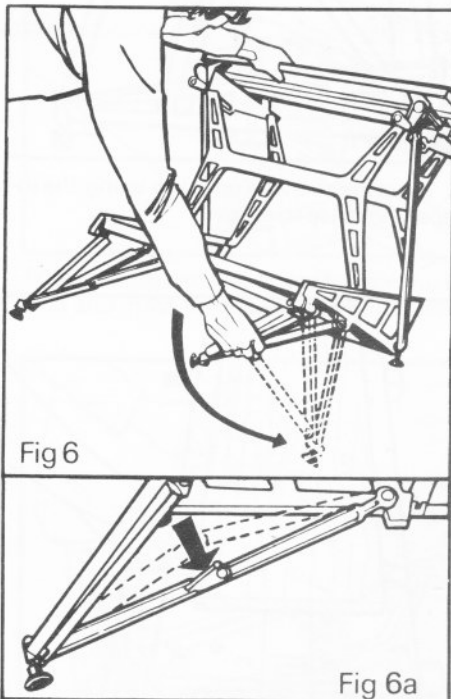

Fig 6
- 6 Tilt the Workmate away from you and pull out the two front legs located under the foot board (see Fig. 6). Ensure that leg support struts are fully extended, see Fig. 6a.